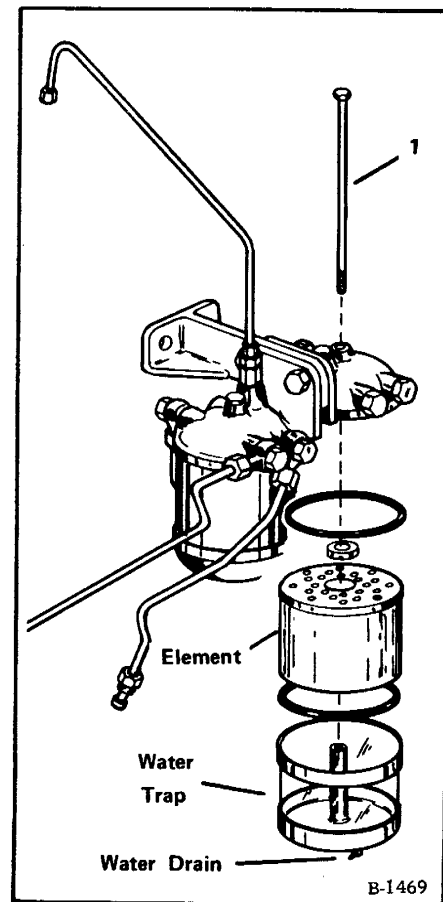

Fig. 38 Filter Assembly
2. Loosen and remove retaining screws of both primary and secondary filters (Figure 38, Item 1).